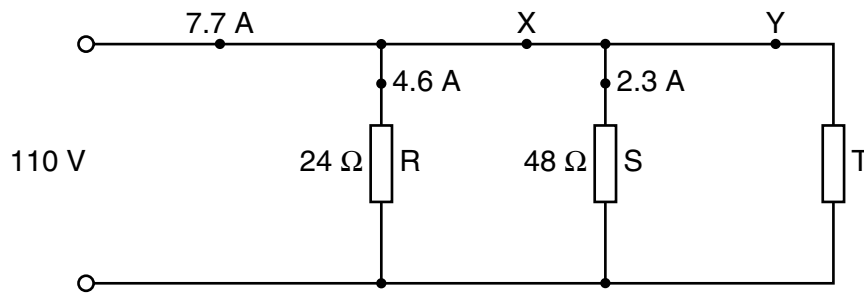

Fig. 4.3
- (c) Fig. 4.3 shows one of the consumer circuits with three electrical appliances R, S and T, connected into the circuit.
Using the current, voltage and resistance values shown on Fig. 4.3, calculate